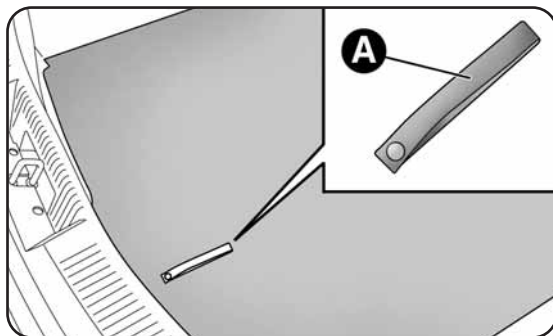

fig. 2
- open the luggage compartment, pull tab A-fig. 2 and lift up the mat;